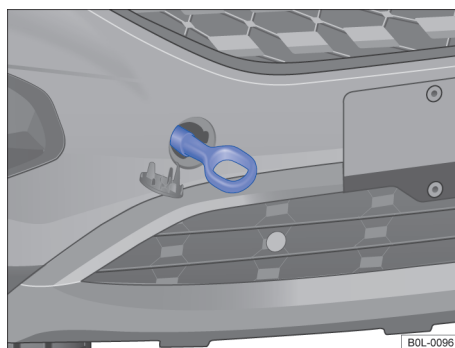

Fig. 132 In the front bumper on the right: screwing in the towing eye
- Turn the towing eye **as shown by the arrow in to the threaded hole** and tighten as far as possible → Fig. 132 → **D**. Use a suitable object to screw the towing eye fully and securely into the mounting.